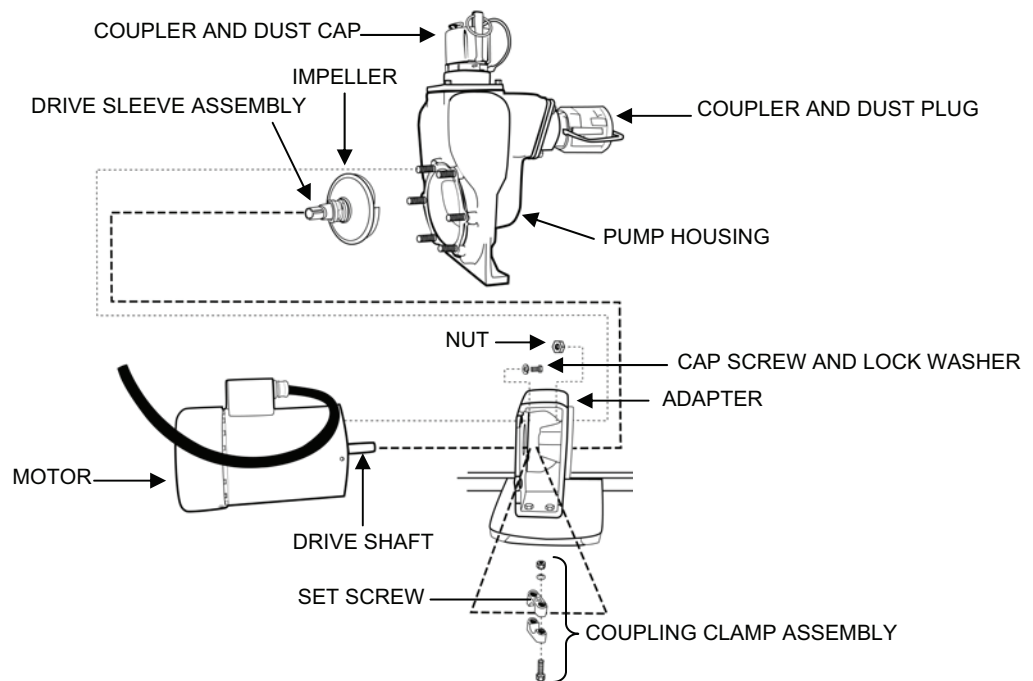

Figure 15. Pump P-2 Adapter and Pump Installation.
4. Install the adapter and pump onto the diesel engine (P-1) or the electric motor (P-2) as follows (see Figure 15):